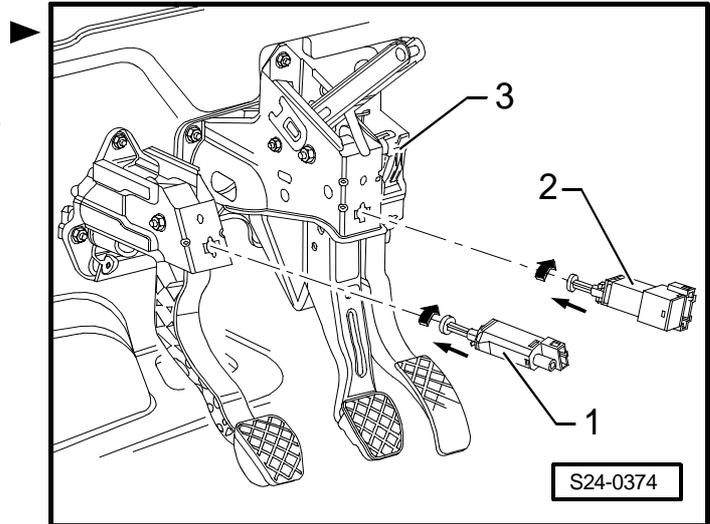

Fig. 2: Relay carrier
- on relay carrier ⇒ Fig. 2 in **23-1** page 4